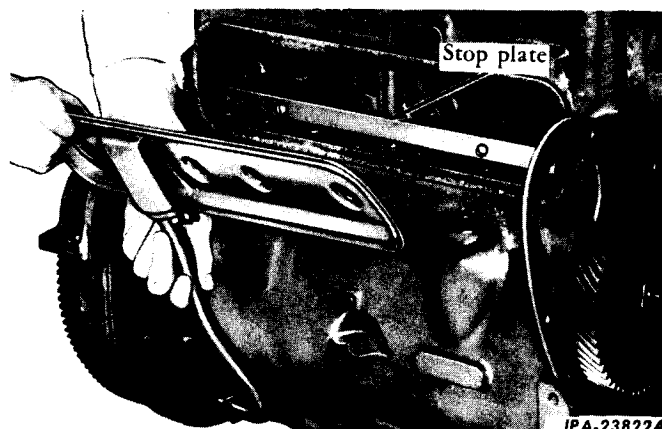

Fig. 6 - Removing The Engine Side Plate (6 Series Engine Shown).
3. NOT 135, 135B, 146 AND 153 SERIES: Remove the engine side plate (or plates) and breather tube assembly (Fig. 6).
4. NOT 135, 135B, 146 AND 153 SERIES: Remove the valve tappet stop plate (Fig. 6).